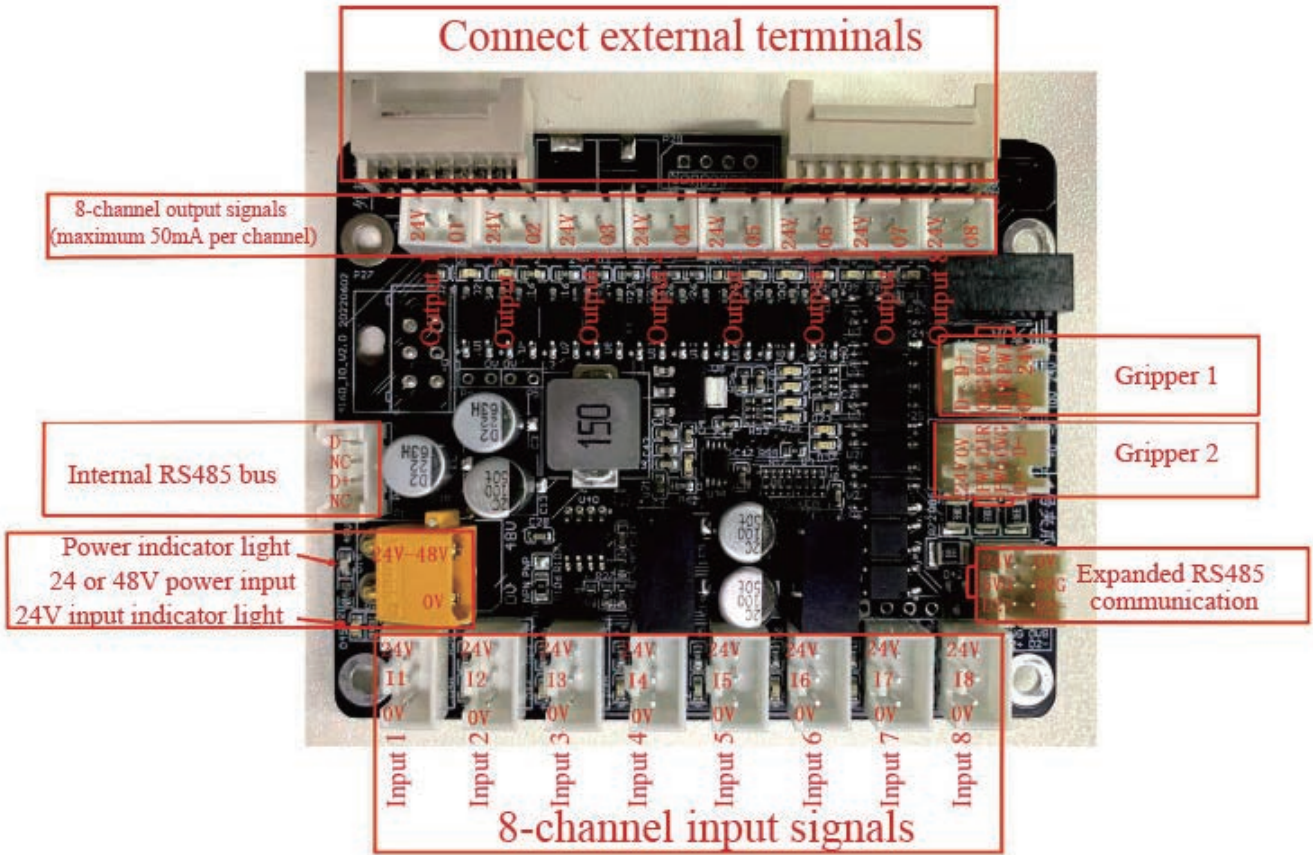

Figure 7
9. Wide I/O Board Diagram (as shown in Figure 7)